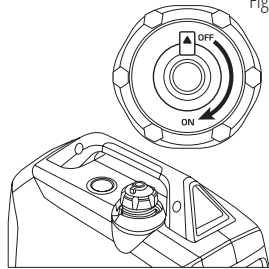

Fig. 3
3. Open the vent on the fuel cap to the “ON” position (fig. 3).
2. Open the vent on the fuel cap to the “ON” (fig. 3).